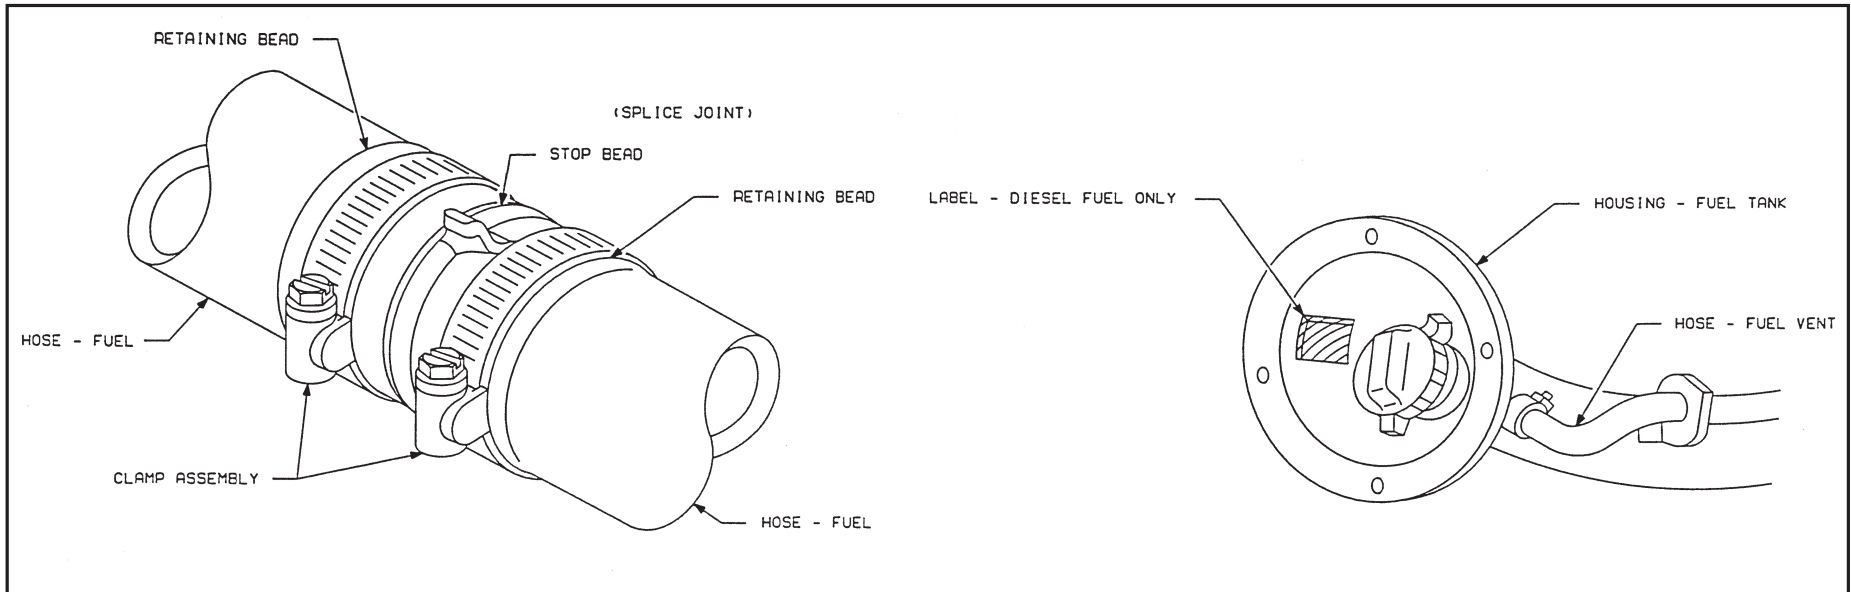

Figure 29
- Before adding extensions, clamp remaining fuel lines to prevent contamination during vehicle conversion (Figure 29).